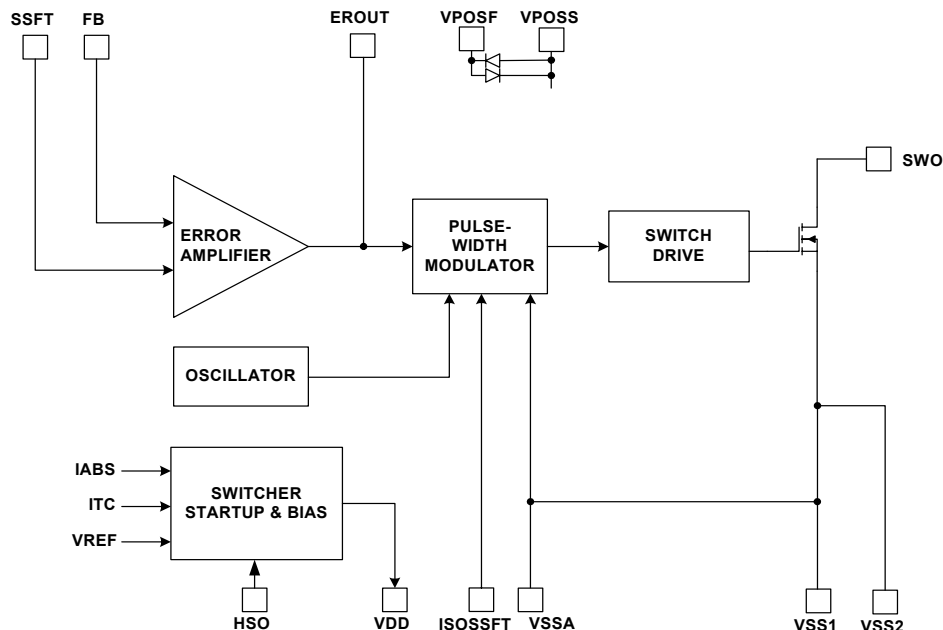

Figure 4. Switcher Block Diagram
- Updated Figure 4 and Table 11.